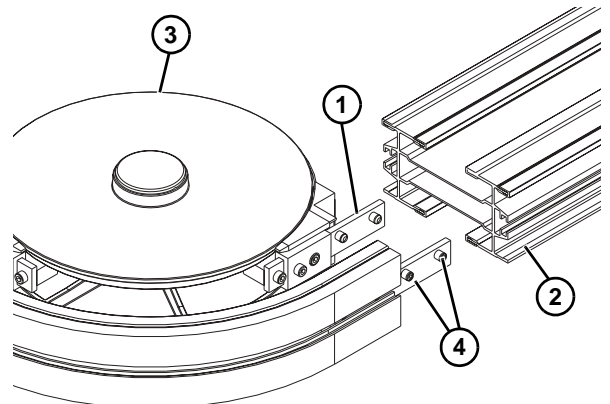

**Figure 6**
1. Join knuckle conveyor frame section (**Figure 6, item 1**), and conveyor frame (**Figure 6, item 2**) and secure with two set screws (**Figure 6, item 3**) on both sides. Tighten all set screws 1/4 turn past contact with frame.